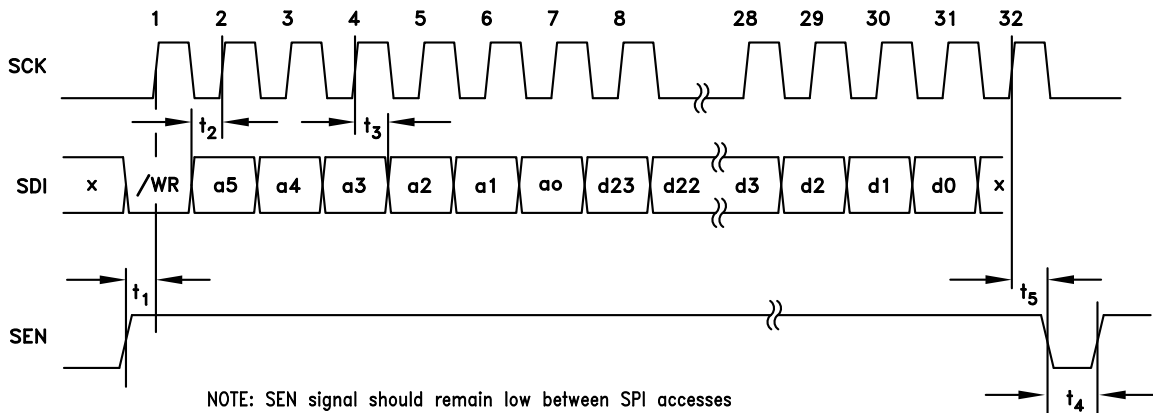
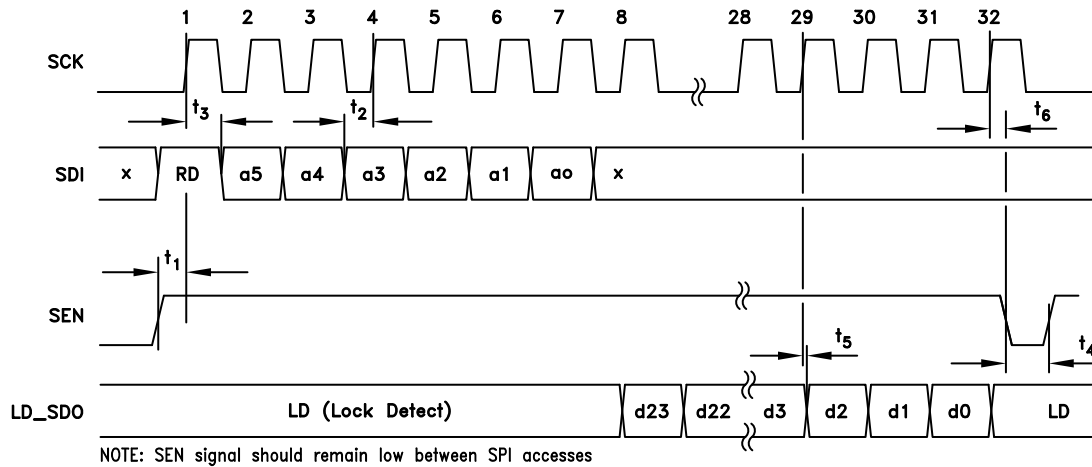

Figure 45. HMC Mode - Serial Port Timing Diagram - WRITE
Figure 46. HMC Mode - Serial Port Timing Diagram - READ
The HMC Mode protocol, shown in figures Figure 45 and Figure 46, is designed for a 4 wire interface with a fixed protocol featuring
A typical HMC Mode WRITE cycle is shown in Figure 45.
A typical HMC Mode READ cycle is shown in Figure 46.
- a. The Master (host) asserts both SEN (Serial Port Enable) and SDI to indicate a READ cycle, followed by a rising edge SCLK. Note: The Lock Detect (LD) function is usually multiplexed onto the LD\_SDO pin. It is suggested that LD only be considered valid when SEN is low. In fact LD will not toggle until the first active data bit toggles on LD\_SDO, and will be restored immediately after the trailing edge of the LSB of serial data out as shown in Figure 46.
- b. The slave (HMC833LP6GE) reads SDI on the 1st rising edge of SCLK after SEN. SDI high initiates the READ cycle (RD)